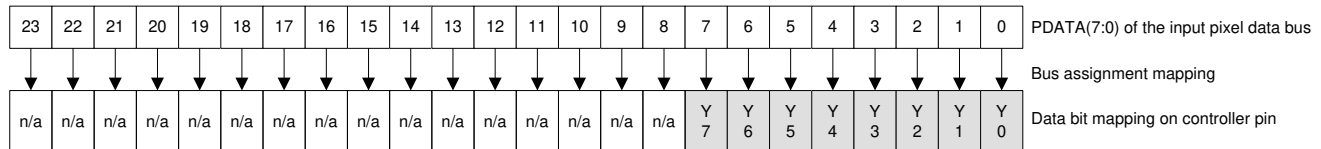

图 6-9. BT.656 Interface Mode Bit Mapping
- Calculate clock jitter (in ns) using this formula: Jitter = $[1 / f_{clock} - 5.76 \text{ ns}]$. Clock jitter must maintain setup and hold times. BT.656 data bits must be mapped to the DLPC34xx PDATA bus as shown in Figure 6-9 shows BT.656 bus mode YCbCr 4:2:2 source PDATA (23:0) mapping.
- The BT.656 interface accepts 8-bits per color, 4:2:2 YCbCr data encoded per the industry standard through PDATA(7:0) on the active edge of PCLK. See Figure 6-9.